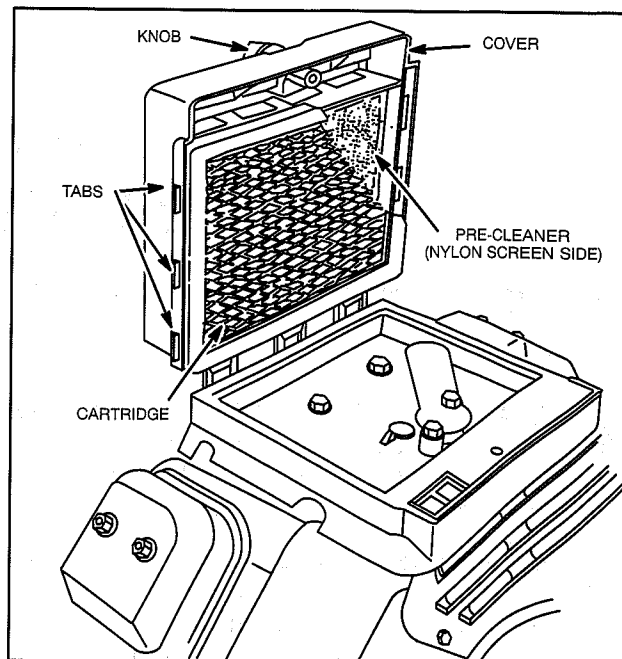
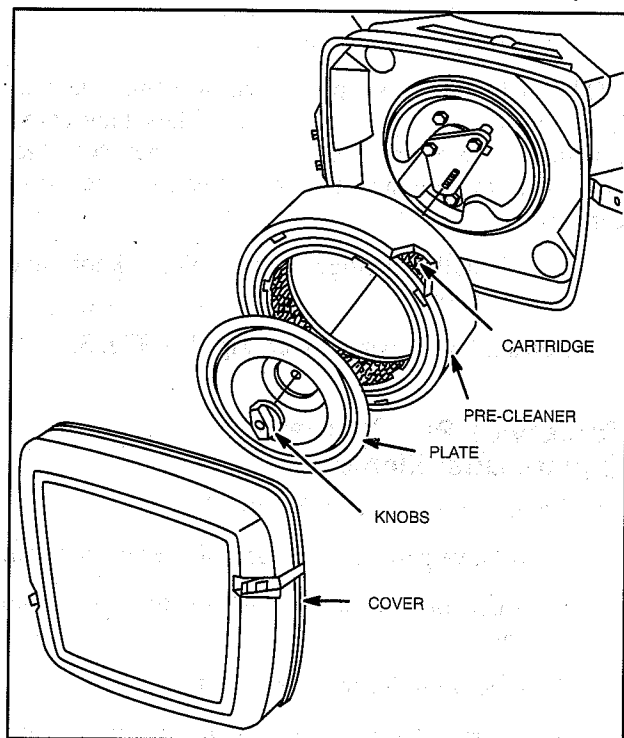
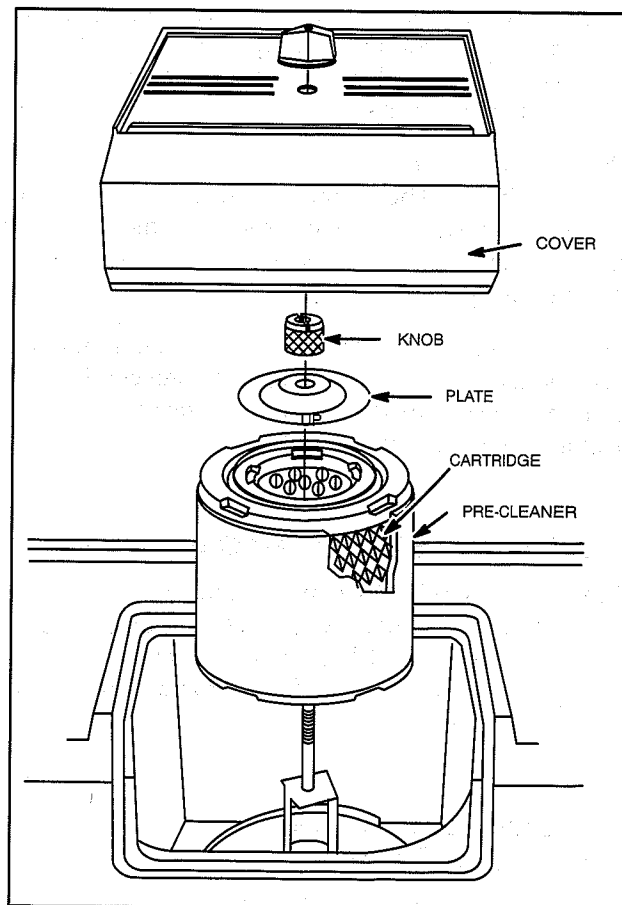

Fig. 2 - Square Dual Element Air Cleaner
Fig. 1 - Round Dual Element Air Cleaner
Fig. 3 - Round Dual Element Air Cleaner (With Optional Fuel Tank)
Remove and service foam pre-cleaner every 25 hours or every season, whichever occurs first, Fig. 1, Fig. 2 or Fig. 3. Service cartridge every 100 hours or every season, whichever occurs first. NOTE: Service air cleaner more often under dusty conditions.
1. Remove cover assembly, Fig. 1, or Fig. 3.
1. Remove knob and cover plate, Fig. 1 or Fig. 3.
2. Reinstall air cleaner cover, Fig. 1 or Fig. 3.
1. Remove cover assembly, Fig. 2.
- f. Install paper cartridge in cover with tabs on cartridge in slots of cover, Fig. 2.
- d. Reinstall paper cartridge in cover with tabs on cartridge in slots on cover, Fig. 2.